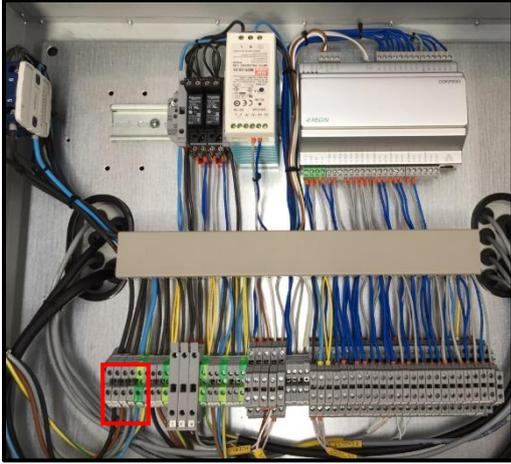

Fig. 15
4. Connect the cables to the marked terminals. Refer to the electrical diagrams for cable connections. (Fig. 15)